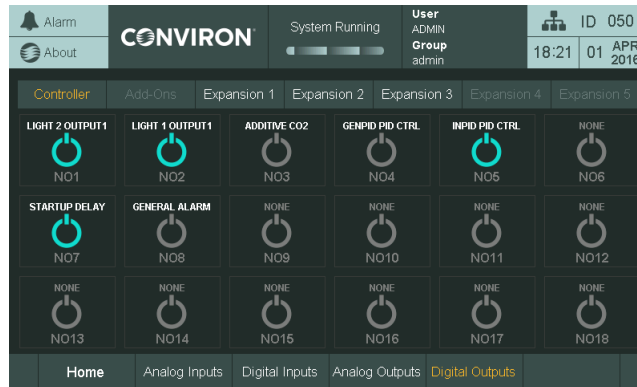

Figure 10-3 I/O Screen Digital Outputs Example
- When a program is not running, the I/O Status screen allows analog and digital output signals to be altered. This interactivity enables qualified service technicians to troubleshoot the chamber. Refer to Figure 10-3 for a sample screenshot of Digital Outputs. Note that the orange fields (when a schedule is not running) can be altered.